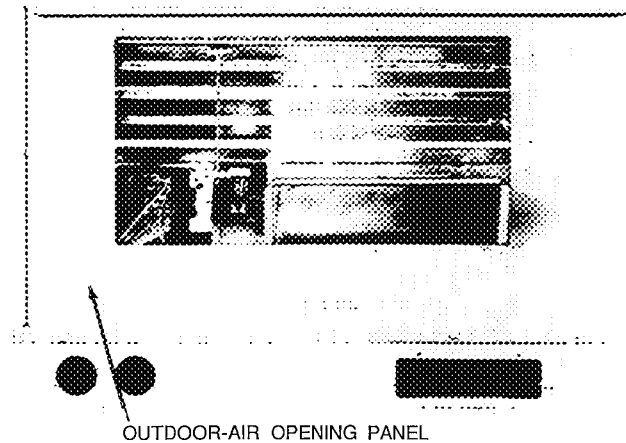

Fig. 25 – Panels Reinstalled on Unit
9. Replace outdoor-air opening panel using screws from Step 2. Replace filter access panel. Ensure the filter access panel slides along the tracks and is securely engaged. See Fig. 25.